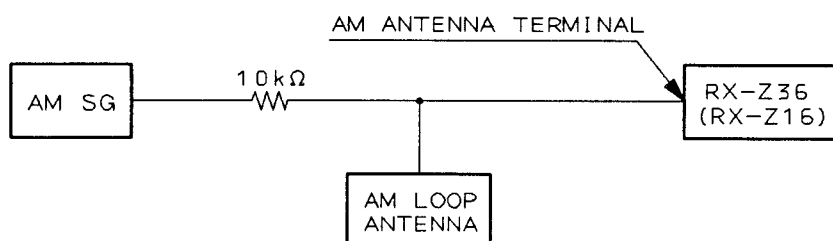

Fig. 4-2 AM adjustment connection diagram
- Connect the tuner as shown in Fig. 4-2.